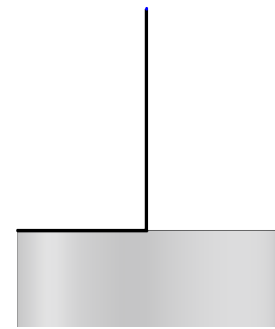

Fig. 7
Step 4. Click **Line**  (L) on the Sketch toolbar.
Step 5. Sketch **horizontal line across top edge of Extrude to midpoint and up with a vertical line**, **Fig. 7**.